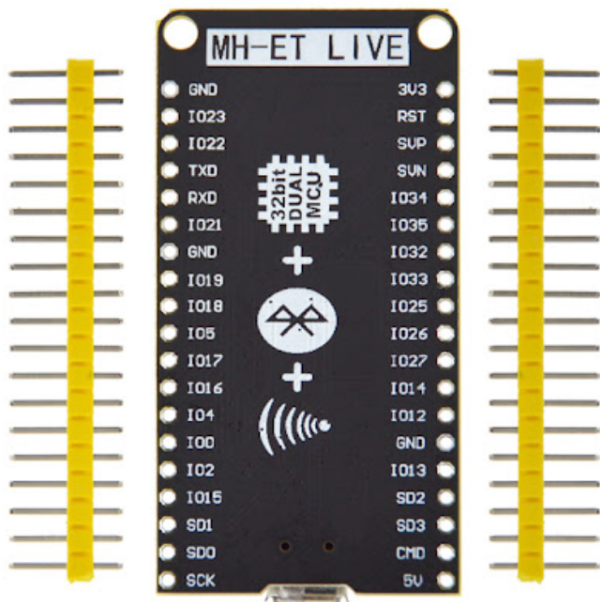

Fig. 2. ESP 32
- 5) Connect the ESP32 in Fig. 2 to L293D as per Table III.